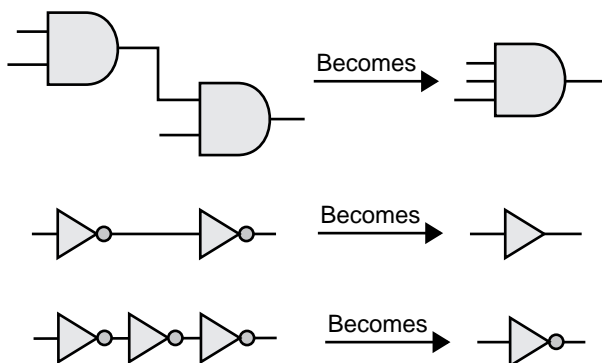

Figure 3-1. Combined Combinatorial Macros
1. It combines two or more combinatorial macros into a single macro. For example, two 2-input AND gates, two inverters, and three inverters are combined into a single 3-input AND gate, a buffer, and an inverter respectively, shown in Figure 3-1.